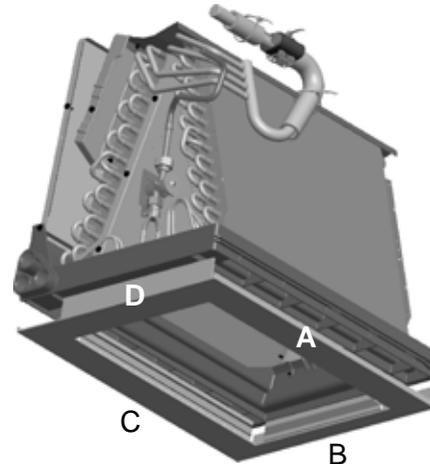

FIGURE 2
4. Line up side A of the insulation with side A of the drain pan and firmly attach the insulation to the drain pan with roughly a 1/4" portion of the insulation folded over the edge as shown in Figures 2 and 3. Fold the insulation over to cover the inside portion of the drain pan on side A.